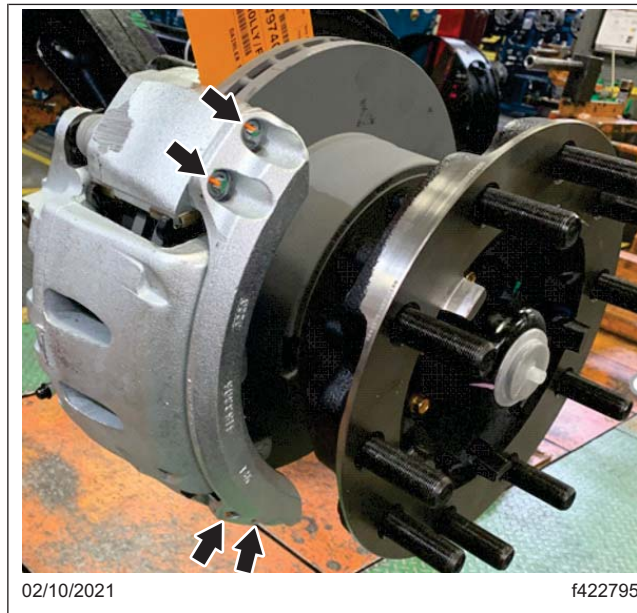

Fig. 1, Caliper Stiffening Bar Mounting Bolts
5. Set a torque wrench to 38 lbf-ft (52 N·m) and tighten the caliper stiffening bar mounting bolts on each side of the vehicle. See **Fig. 1**.